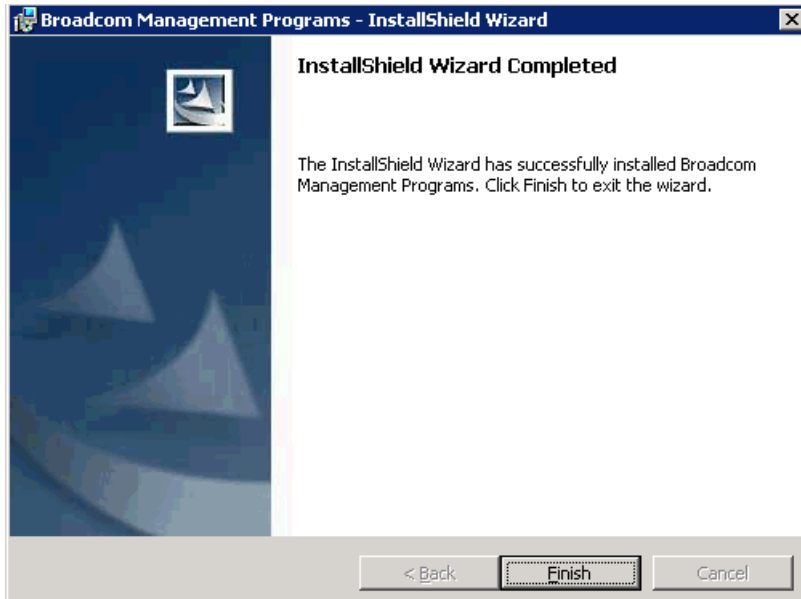

Figure 5-29 Installation complete
6. Click **Finish** (Figure 5-29 on page 82). This completes the installation of the Broadcom software. Click **Exit** to close the Broadcom NetXtreme Software installation utility.